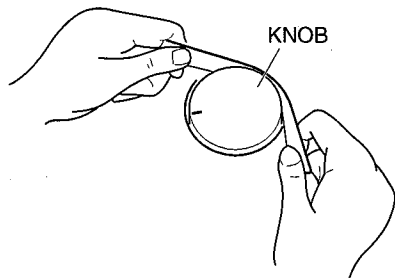

Fig. 5
- 5-1. Pull out the volume knob from the control panel as shown in Fig. 5.